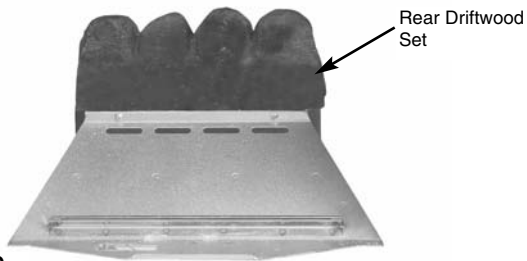

Fig. 49
1. Place the rear driftwood set on the rear ceramic retainer ledge in a central position (Fig. 49).